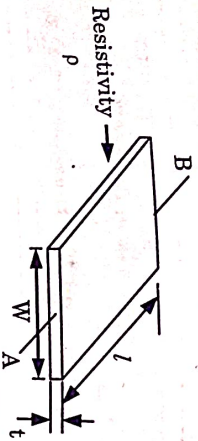

Fig. 1.19.1. Sheet resistance model.
1. Consider a uniform slab of conducting material of resistivity ρ , of width W , thickness t , and length between faces L . The arrangement is shown in Fig. 1.19.1.